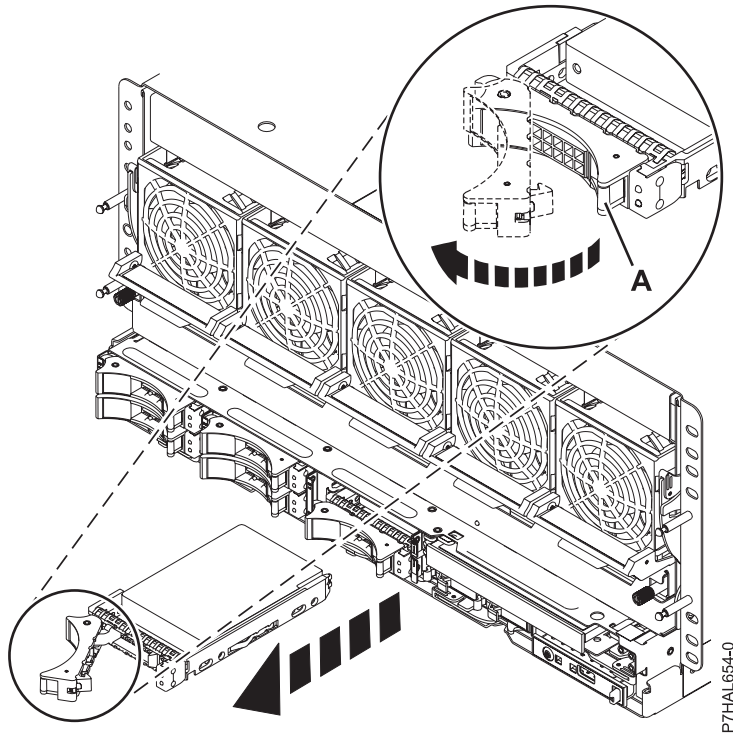

Figure 18. Removing a disk drive from the system
3. When the identify LED turns on solid, unlock the drive handle by squeezing it and pulling it out toward you, as shown in Figure 18 on page 30. If the handle is not all the way out, the disk drive or solid-state drive cannot slide out of the system or out of the expansion unit.